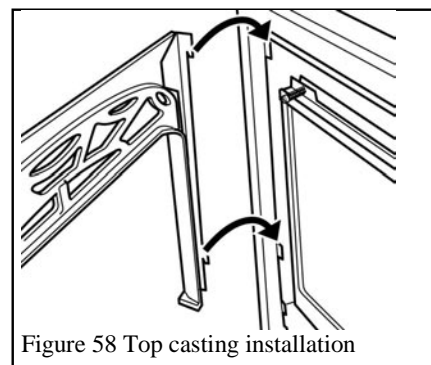

Figure 58 Top casting installation
- Attach the top-casting unit by hooking over the four tabs at the firebox sides as shown in figure 58.